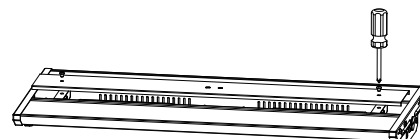

Figure 6
Step 1. Remove top cover (Figure 6)